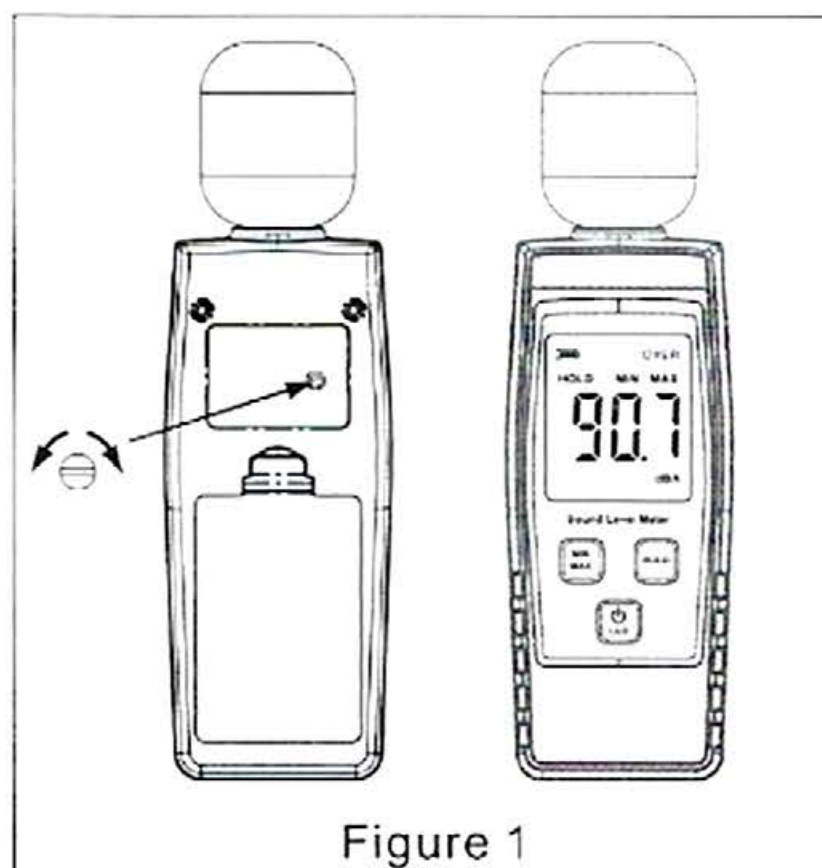

Figure 1
- 2、Turn on the power switch of standard sound source (94dB@1KHz), use straight screwdriver to adjust potentiometer located in the opening hole within the machine stick, and make LCD display 94.0(referring to Figure 1).